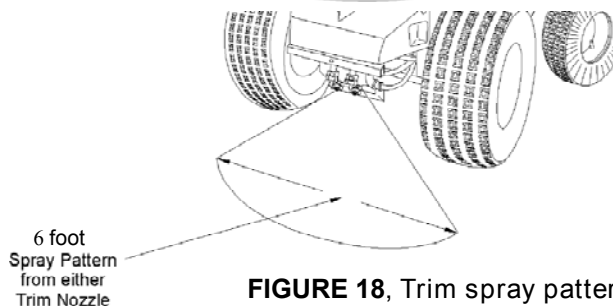

FIGURE 18, Trim spray pattern
- Spray for **15 SECONDS** until the spray pattern is visible on the surface. The spray pattern should resemble the **6-FOOT** spray pattern in **FIGURE 18**. Adjust as follows: